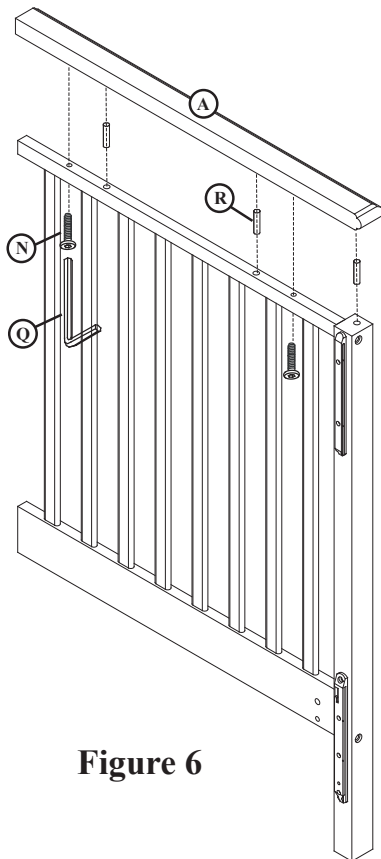

Figure 6
Attach the Crib End Top(A) to the Crib end using wood dowels (R), then insert bolts(N), through the top rail of crib ends bottom into the threaded insets onto the crib end top as shown in Figure 6.Repeat on the other end.